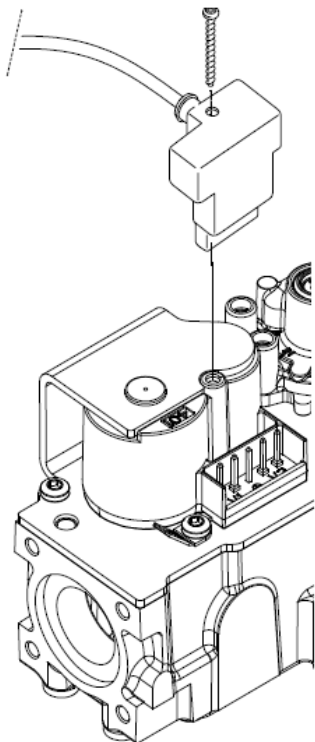

Fig.9 Connect rectifier plug
- Connect the flange to the gas control afterwards. Max. torque on flange screws: 3 Nm (see fig. 9)
Mounting of rectifier plug (See fig. 9)